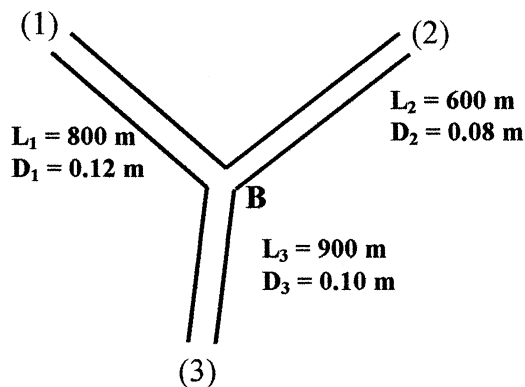

Fig. P6.125
6.125 Suppose that the three cast-iron pipes in Prob. 6.120 are instead connected to meet smoothly at a point B, as shown in Fig. P6.125. The inlet pressures in each pipe are: $p_1 = 200$ kPa; $p_2 = 160$ kPa; $p_3 = 100$ kPa. The fluid is water at 20°C . Neglect minor losses. Estimate the flow rate in each pipe and whether it is toward or away from point B.